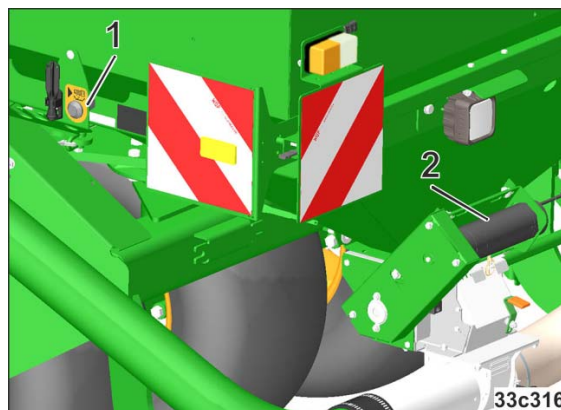

Fig. 59
- o Calibration button (Fig. 59/1)
- o Metering drive (Fig. 59/2)